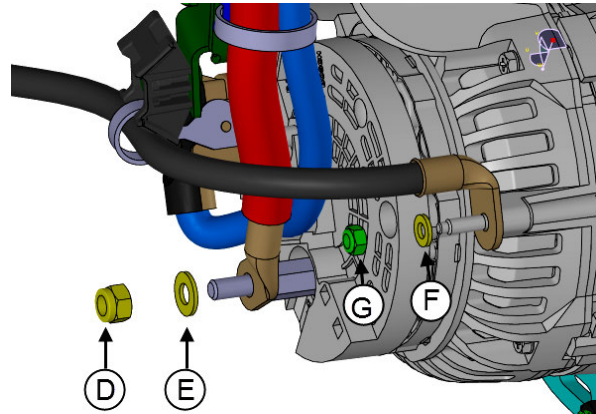

FIGURE 48
8. Fit the (+) power cable terminal onto adaptor stud at **B1+** stud terminal, place one flat washer **E** against the (+) power cable lug and screw nut **D** (**FIGURE 48**).
9. Connect the ground cable onto the alternator ground stud terminal as shown on **FIGURE 48**. Place one flat washer **F** against the ground cable lug terminal and screw nut **G**.